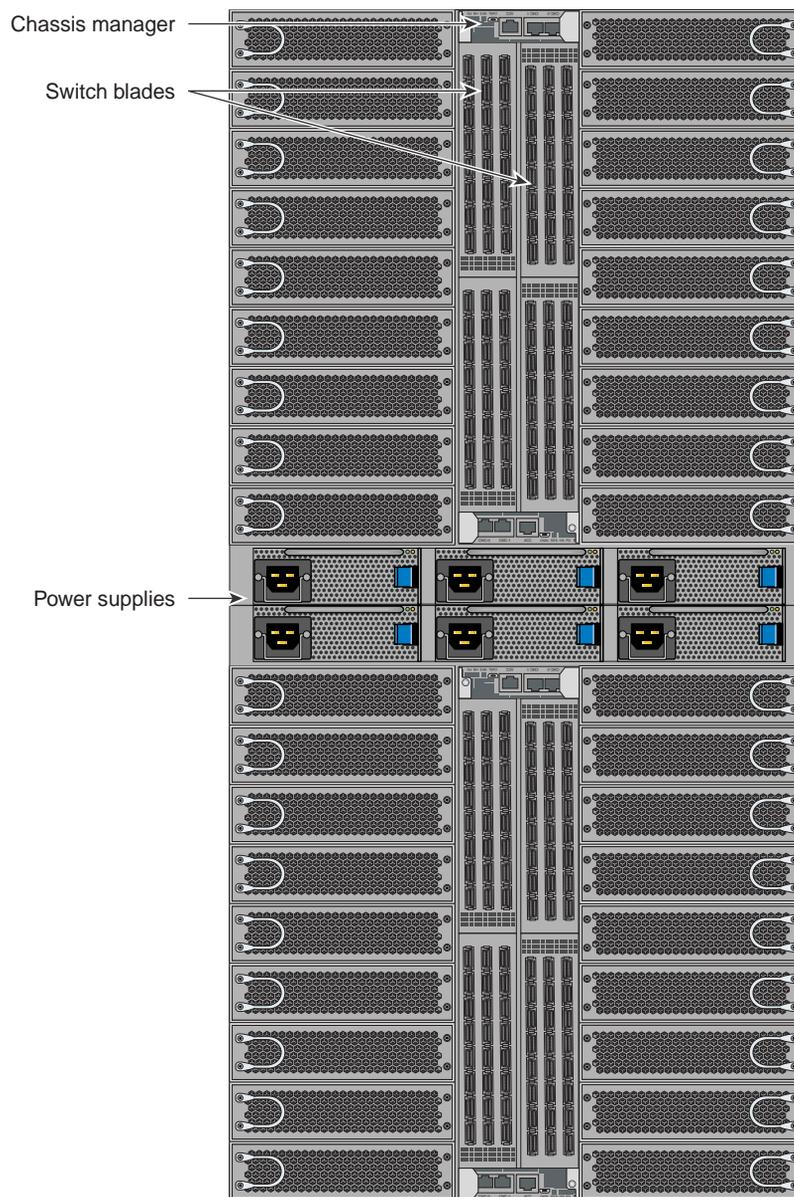
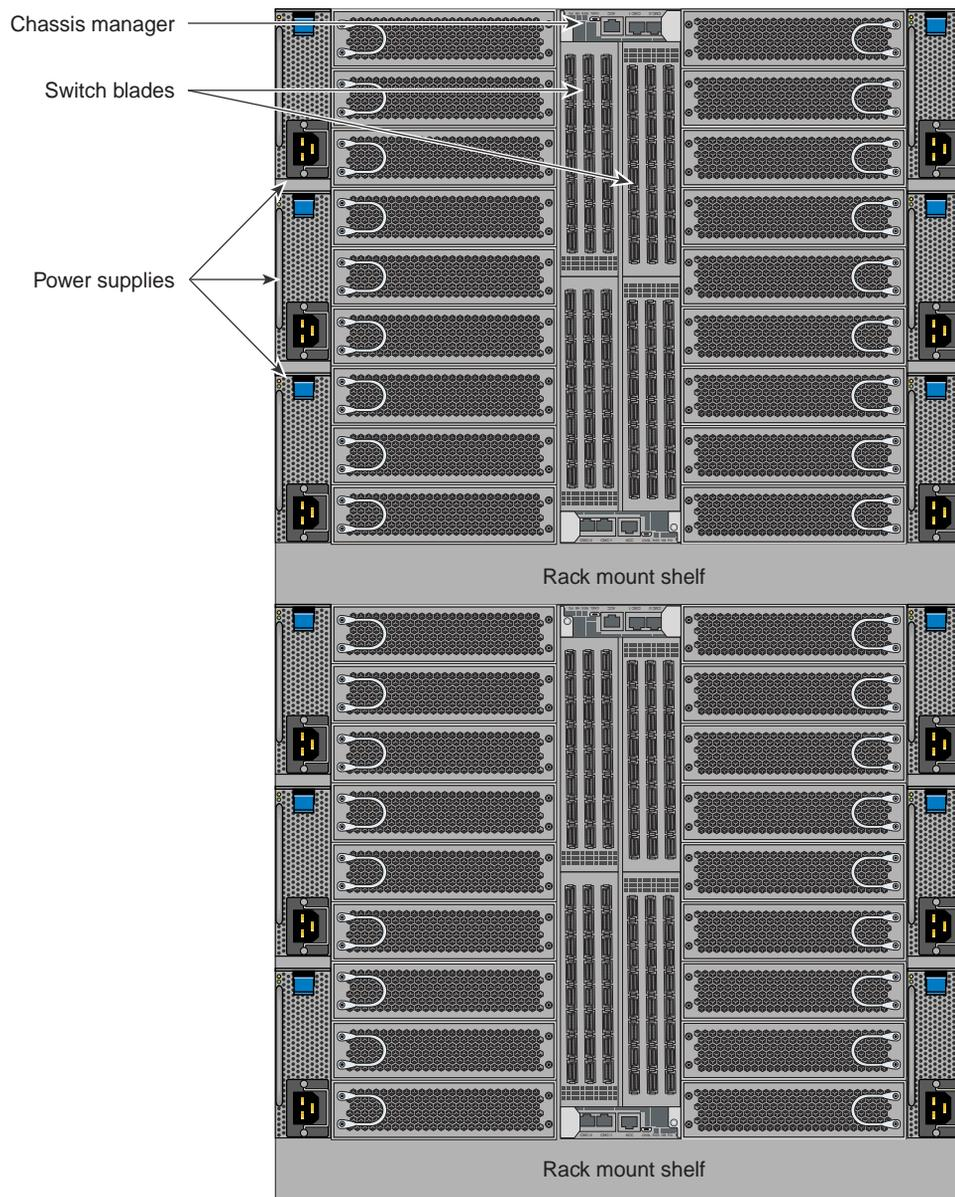

Figure 3-8 SGI ICE X Series D-Rack Blade Enclosure Pair Components Example
Figure 3-10 M-Rack Blade Enclosure Pair Components Example
- **Blade enclosure pair.** This sheetmetal enclosure contains the two enclosures holding up to 36 compute blades, up to four chassis manager boards, up to four InfiniBand fabric I/O blades and front-access power supplies for the SGI ICE X series computers. The enclosure pair is 21U high. Figure 3-8 on page 42 shows the D-Rack version of the SGI ICE X series blade enclosure pair system front components. The blade enclosure pair used in M-Cell configurations employs side-mounted power supplies, see Figure 3-10 on page 44.